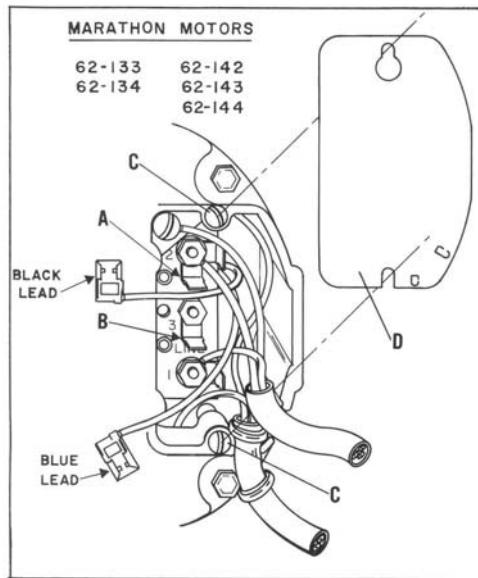

Fig. 1
2. If your motor is manufactured by Marathon Electric, refer to Fig. 1. Loosen two screws (C) and remove the motor junction box cover (D) Fig. 1. Interchange the black and blue leads on terminals (A) and (B). These leads have spade type terminal clips that are slipped off the terminals (A) and (B) and interchanged, as shown in Fig. 1.